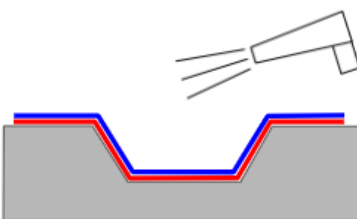

Fig.6
- Let the material and the surface cool down prior to any cutting of edges or overlays. *Fig.6*